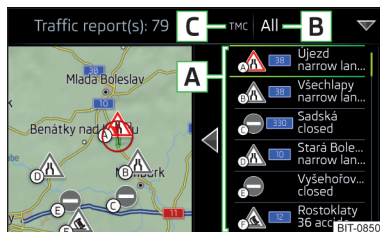

Fig. 252
In the list of traffic messages and the map, a max. of 6 messages are displayed, that are provided with a letter and a traffic obstruction symbol (e.g. , , ) A » Fig. 252.
On the position C » Fig. 252 can the following symbols are displayed.
- ▶ **Route guidance is taking place** - After tapping function surface **B** » Fig. 252 in the displayed menu, you can select all traffic messages by tapping the function surface **All areas**, or you can select only the traffic messages present on the route by tapping the function surface **Route**.